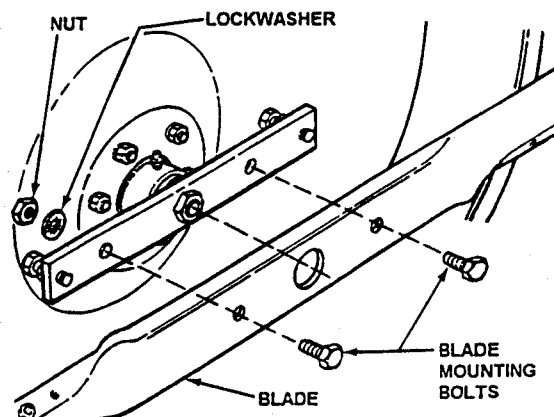

FIGURE 4.20
2. Remove blade. See Figure 4.20.
6. Reinstall blade as shown in Figure 4.20. Tighten blade mounting bolts 45 to 55 ft. lbs with a torque wrench.